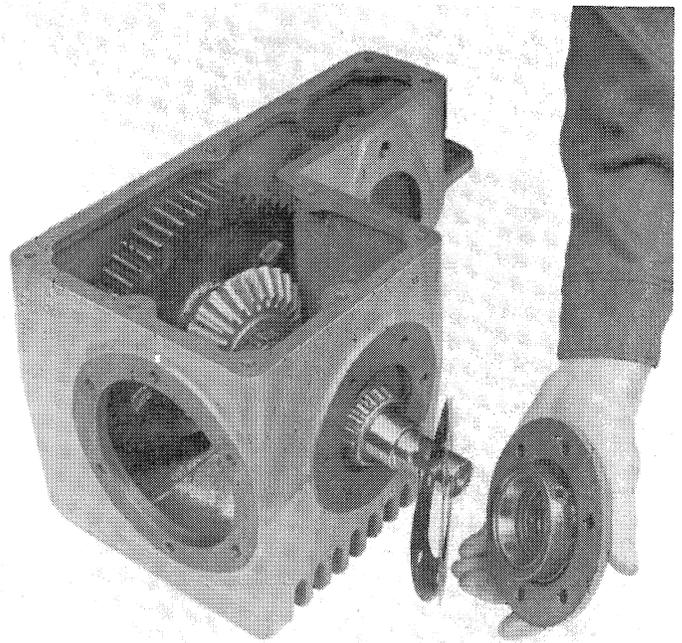

FIGURE 11
5. Remove right-hand bearing cap (14) from gearbox housing (37). See Figure 11.
**NOTE: Use care not to damage the areas of the shaft (11) which contact the oil seals.**